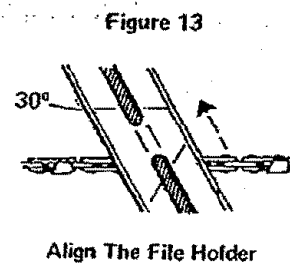

Figure 13
5. Align the file holder marks with the bar as shown in Figure 13, using the 30° angle mark on file holder.